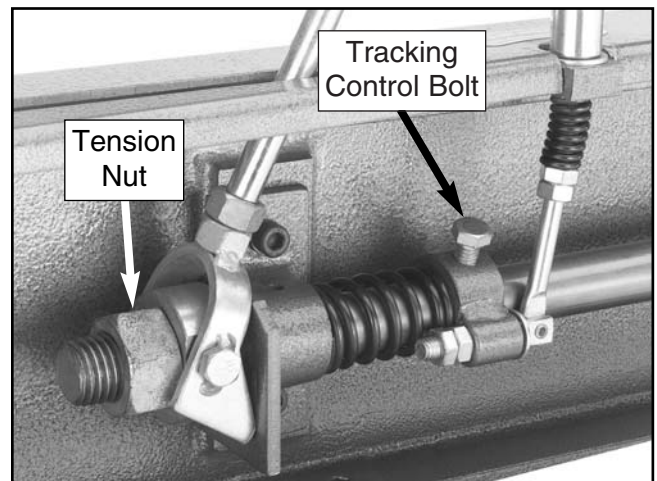

Figure 35. Belt tension nut and tracking control bolt.
5. Locate the belt tension nut and the tracking control bolt shown in **Figure 35**.